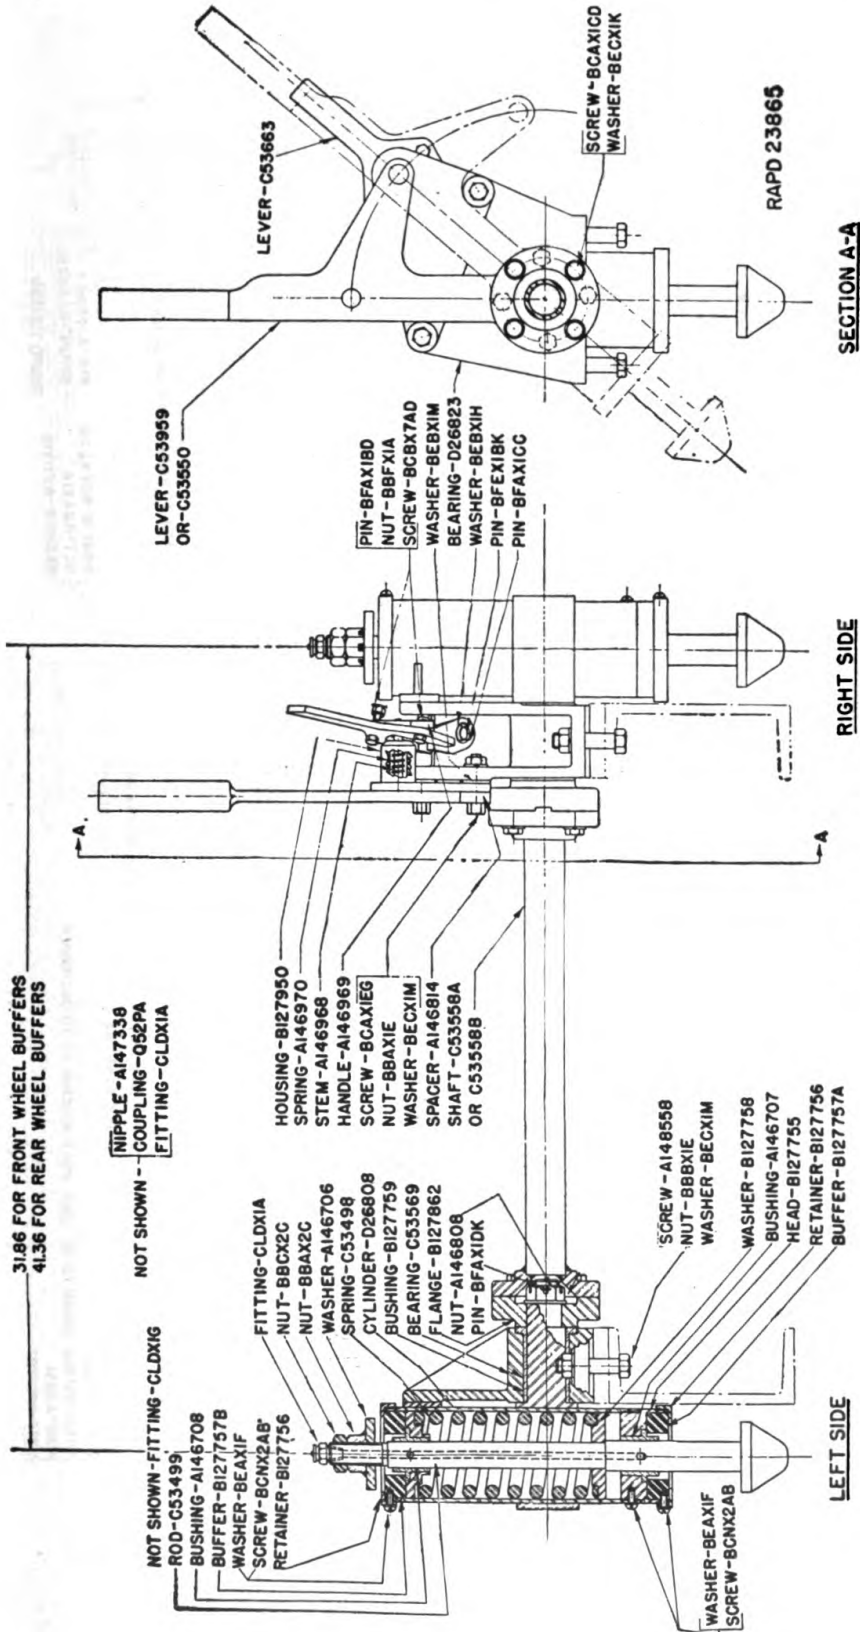

FIGURE 17.—Buffer assembly.
**32. Buffer mechanism** (fig. 17).—*a. Adjustment.*—A small adjustment of each buffer cylinder is possible by turning the two nuts (BBCX2C and BBAX2C) on the top of the buffer rod. As these nuts are turned down on the rod, the spring is further compressed and the buffer rod point is raised. The buffer rod will then move through a shorter range when acted upon by the axle arms during travel. This adjustment can be used if the rod bears down on the axle arm with too great a force.